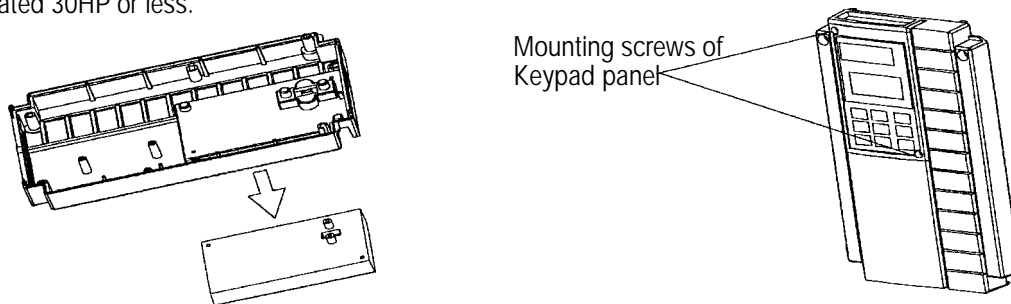

Fig.1-3-3 Removing the Keypad Panel (for drives of 30HP or less)
(2) Removing the Keypad Panel
After removing the cover as explained in (1), loosen the keypad panel mounting screws and remove as shown in Figure 1.3.3 for drives rated 30HP or less.